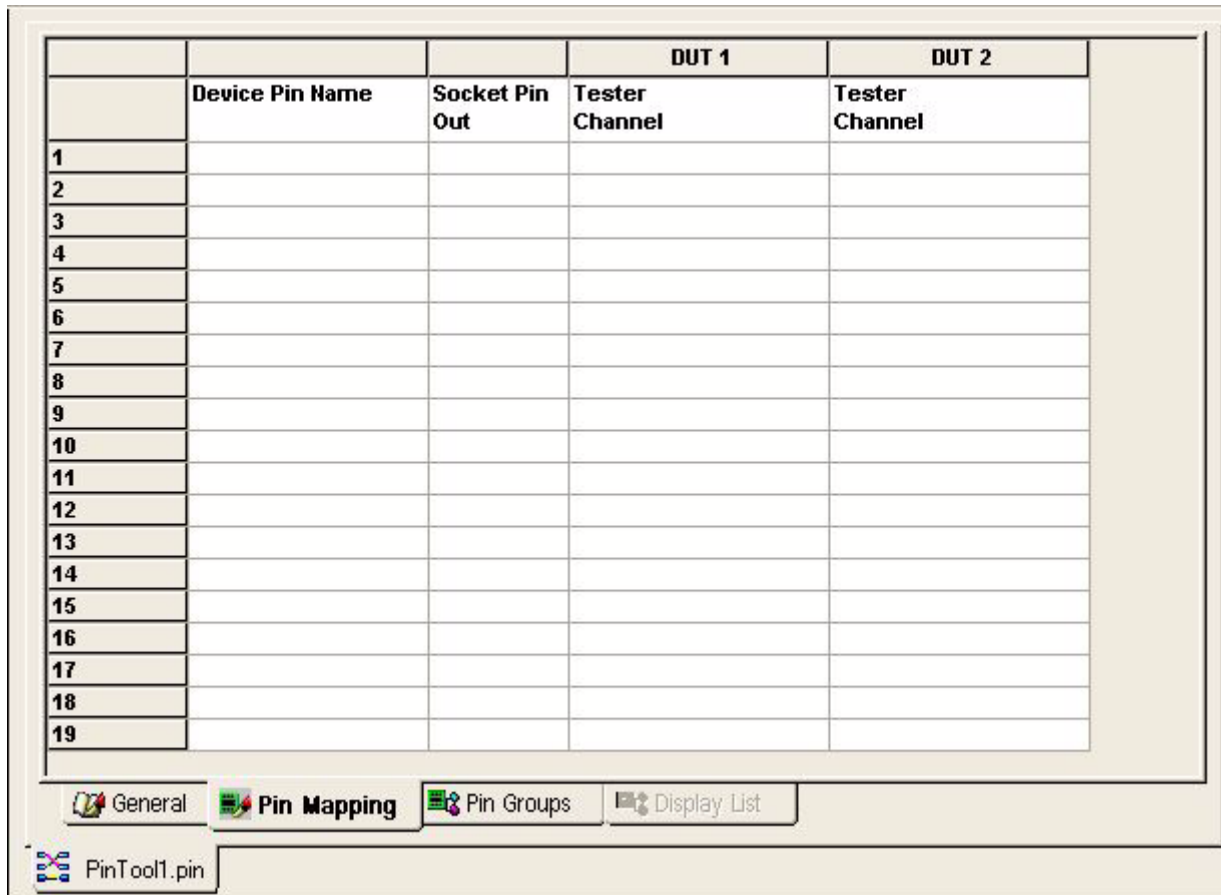

Figure 3-27. Pin Tool's Pin Mapping Tab
- 1 Selecting the Pin Mapping  tab (Figure 3-27) displays how it was configured on the General  tab. For example, it was previously configured with two DUTs.